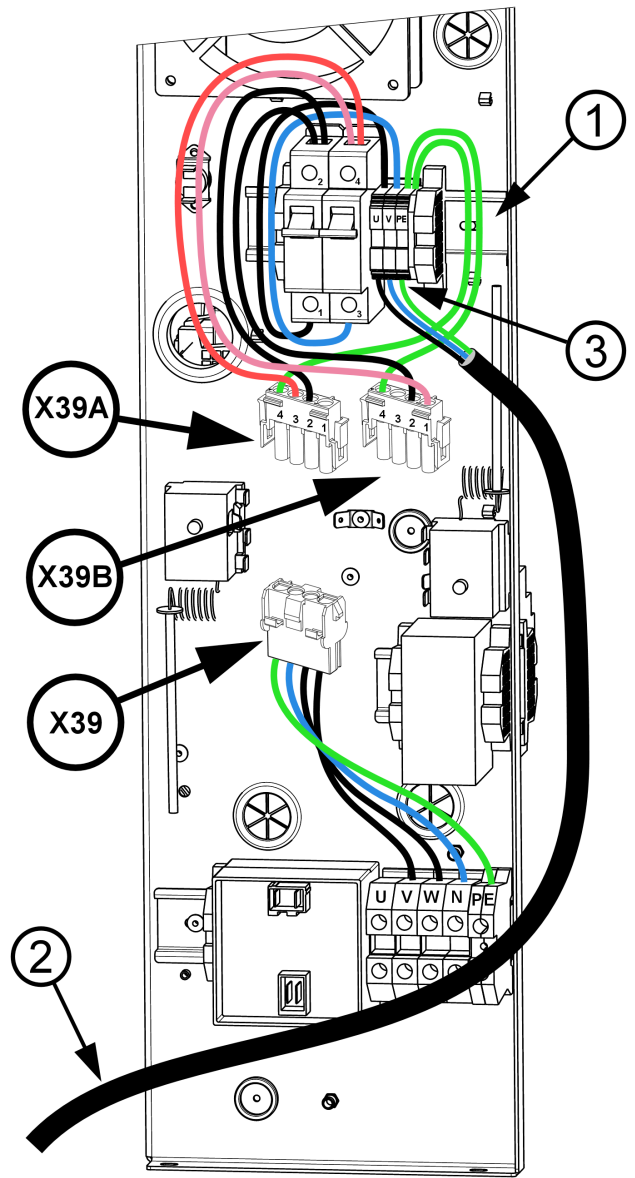

Figure 13: Connecting the 0610 hood set
Screw the DIN rail with fuse and terminals from the hood set (1) onto the back of the electrical board in the prepared openings using M4x10 bolts and the cushioning pads and nuts (part of the set) (see fig. 13).
Connect the individual wires of the hood's power cable (2) from below (3) to terminals U, V and PE from the hood set (see fig. 13).